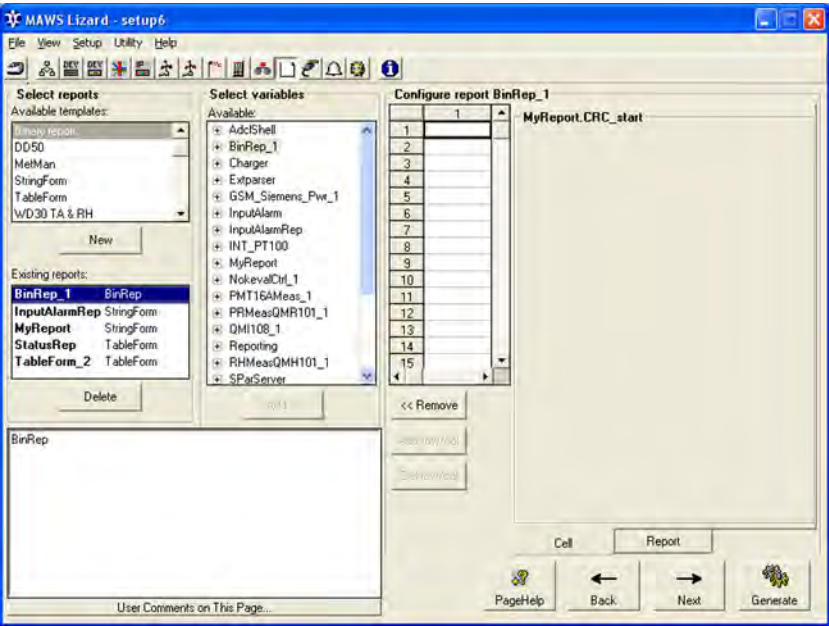

Figure 108 Reports View: Selecting Binary Report Form
1. In the **Reports** view, select *Binary report* from the **Available templates** list and click **New** to create a new report; see Figure 108 on page 208.